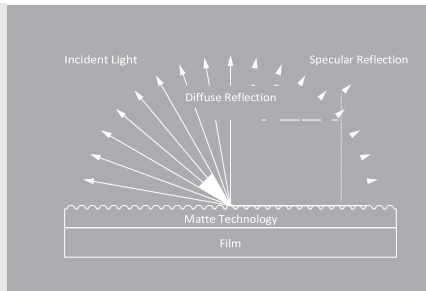

Figure 2: New Matte Film Technology
- Aesthetics — New matte technology gives the realistic appearance of natural materials for select designs (see Figure 2).